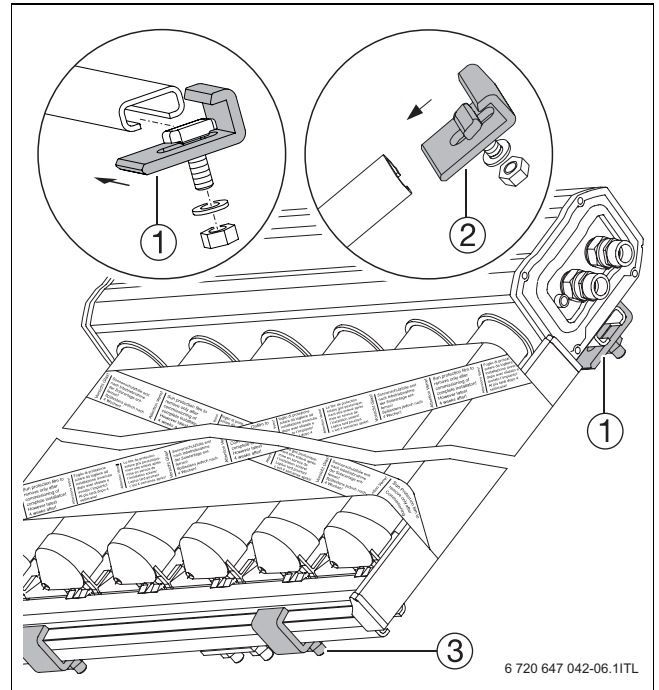

Fig. 31 Collector fitted onto to the horizontal rails
- ▶ Open the packaging at the bottom. This allows the collector to slip into the lower clamps (→ Fig. 31, [3]). These clamps must provide secure grip into the collector profile.
- ▶ Install the upper clamps (→ Fig. 31, [1 or 2]) onto the rails in the same way as the lower clamps [3]. Fasten the upper clamps once the other collectors have been installed.
- ▶ Tighten upper clamps with a SW17 spanner (→ Fig. 31).